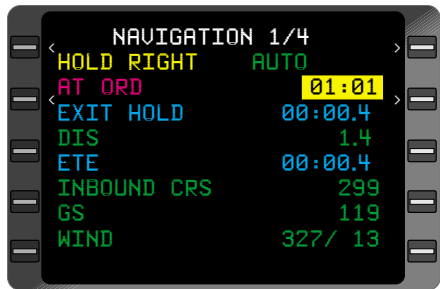

Figure 3-114
4. **ENTER** Key - DEPRESS. The **NAVIGATION** Page indicates that the aircraft will **EXIT HOLD** the next time over the holding fix (aircraft will complete the loop around the holding pattern). (Figure 3-114)
***NOTE:** The next (NX) way-point information may also appear if the exit is made during Waypoint Alert.*